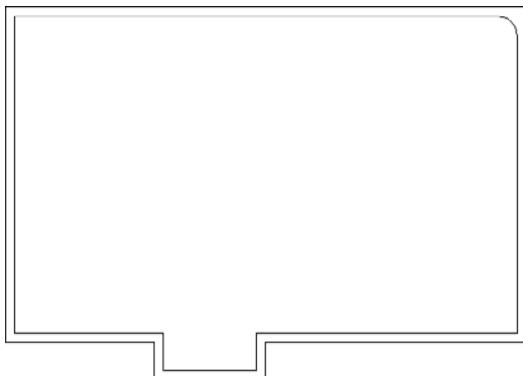

FIGURE 4.13 The first corner is filleted.
8. Select any two polyline segments that share a corner of the inner box. The two segments are shortened and a curved segment with a **12"** (3600 mm) radius is inserted. The polyline now has nine contiguous segments (see Figure 4.13). The FILLET command automatically ends after each fillet.